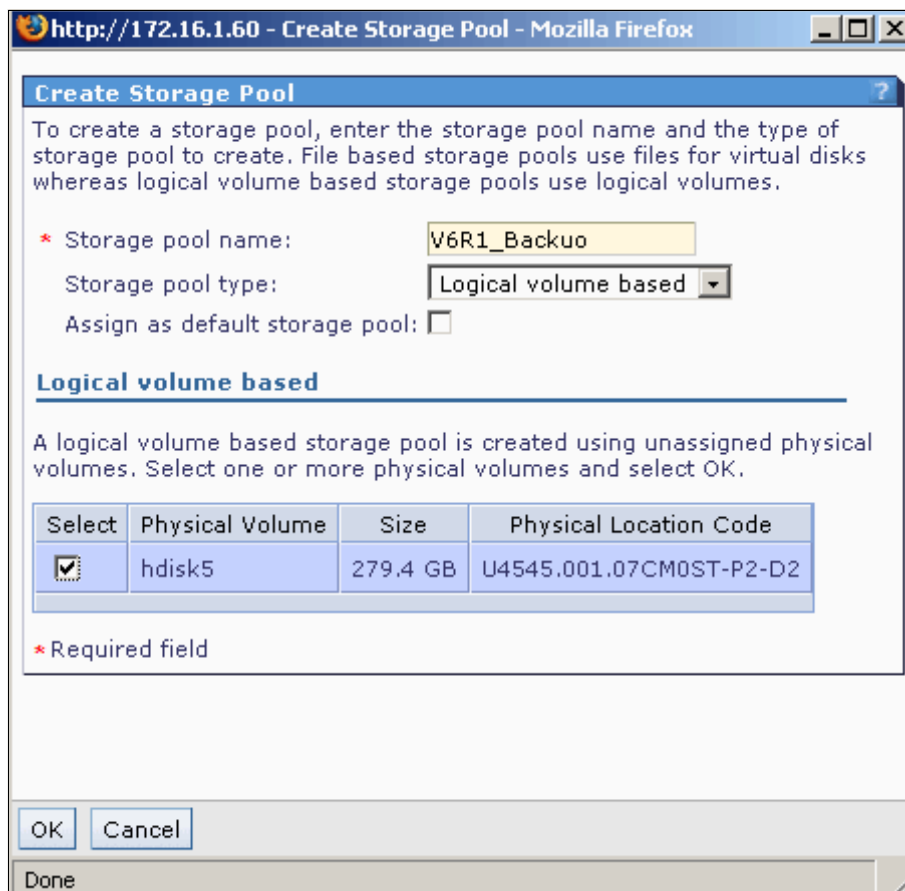

Figure 7-69 IBM Create Storage Pool
2. Select **View/Modify Virtual Storage**, the **Storage Pool** tab, and then click **Create Storage Pool**. The window displayed in Figure 7-69 is shown.